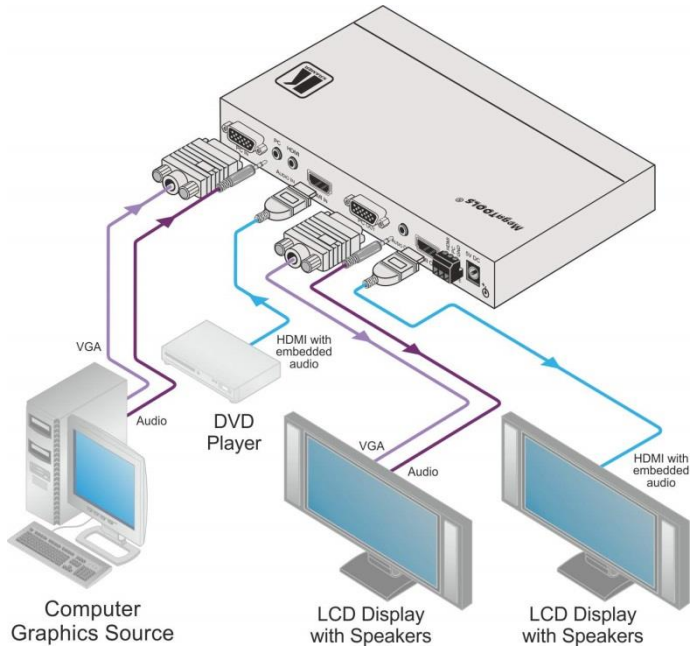

Figure 2: Connecting the VP-426 HDMI-PC Scaler
To connect the **VP-426** as illustrated in the example in Figure 2:
6. Connect the 5V DC power adapter to the power socket and connect the adapter to the mains electricity (not shown in Figure 2).